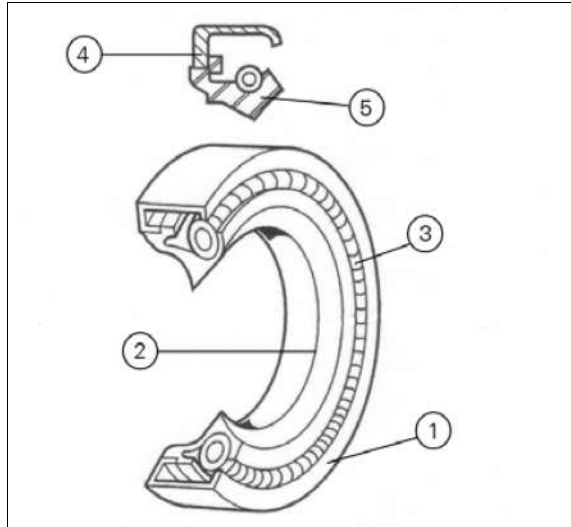

Fig. 3. 1020431
In (fig. 3) you can see a single "SPY" seal ring. In the cross section you can see the "flange" (4) and "pin" (5), which sit on the outside and inside respectively in a seal ring with a lip. With a few exceptions, the pin on an oil ring with a lip faces the lubricant side. Certain seal rings have an extra lip without a spring.